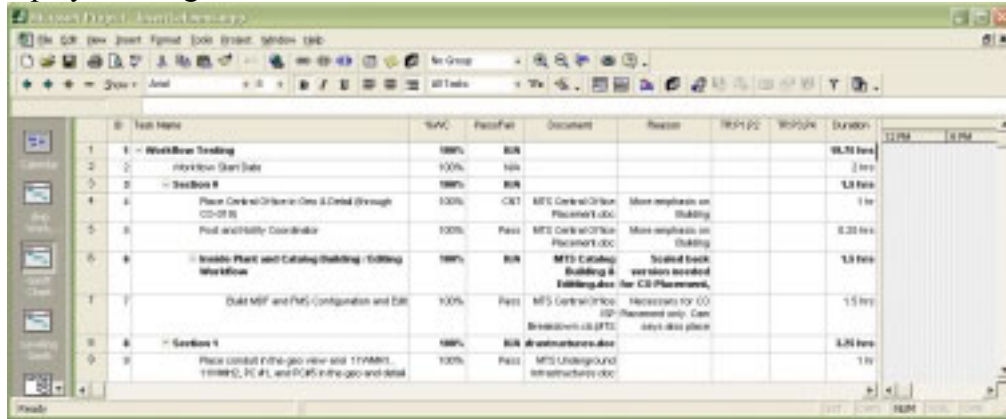

Figure 3 – Gantt with Custom Defined Columns
1. Assume we have data entered into a Microsoft Project Gantt containing custom columns as displayed in Figure 3.